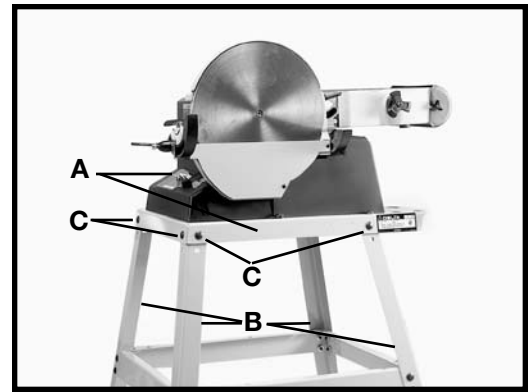

Fig. 8
1. Use a helper to lift and position the tool and top shelf (A) Fig. 8 on the four legs (B).
2. Fasten the top shelf to the six top holes in the legs (four of which are shown). Insert the six 5/8" carriage bolts (C), then attach the flat washers, and hex nuts.